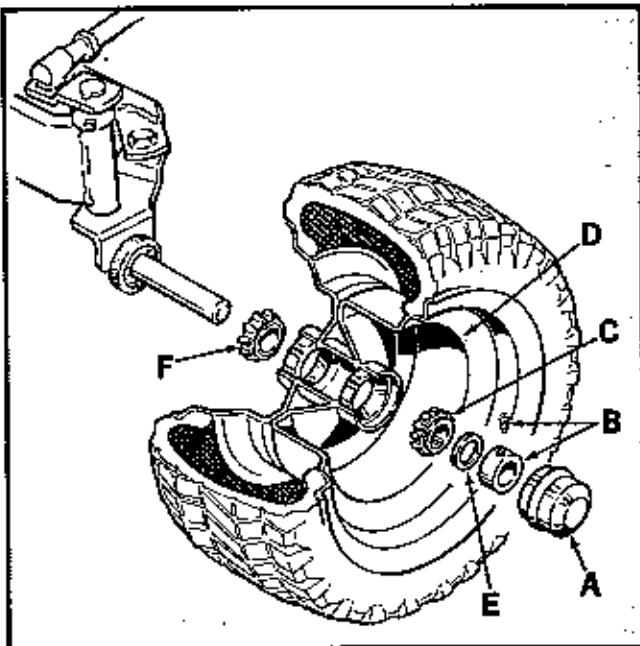

Figure 33. Left front spindle and axle assembly.
2. See figure 33. Remove the grease cup (A) by prying off with a screw driver.
3. Use an Allen wrench to loosen the set screw in collar (B).
4. Remove the set collar (B), spacer (E), outer bearing (C), wheel (D), and inner bearing (F). It is best to keep the two bearings separate so you can put them back in their original place. Wash the bearing shaft, bearings, and wheel housing with a suitable solvent and wipe dry. Inspect the seal of the inner wheel. Replace it if it is damaged. **NOTE: IT IS EXTREMELY IMPORTANT THAT THE BEARINGS AND GREASE THAT IS PACKED IN THEM BE KEPT CLEAN.**